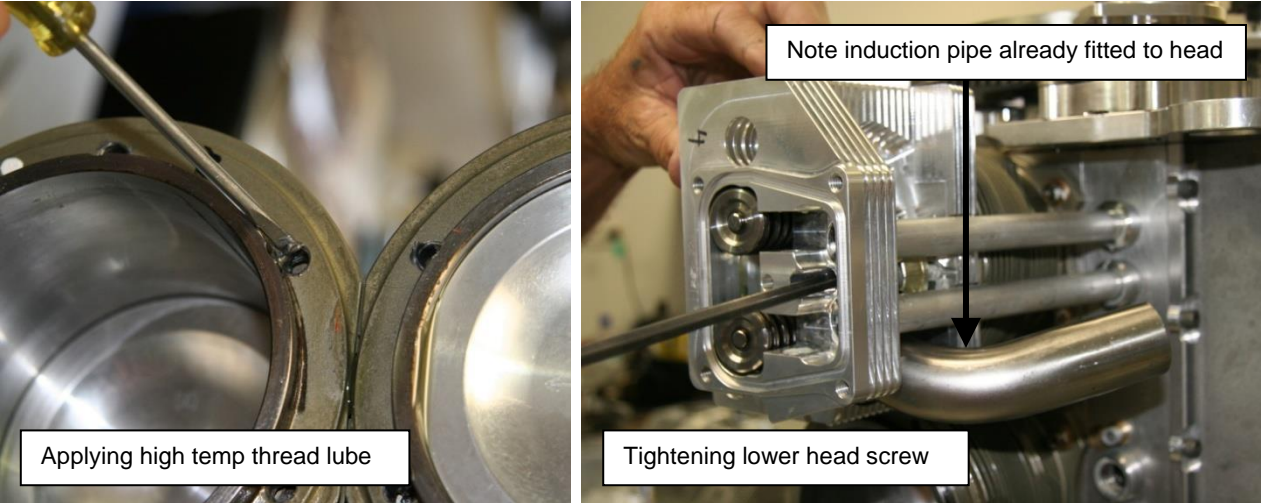

Figure 189 – Applying Thread Lubricant & Tightening Lower Head Screw
10. Apply high-temperature lubricant to the threads of the cylinder and the cylinder head screws – these are susceptible to rust which can lead to inaccurate bolt tension readings later in service. The lubricant is designed to prevent rust on the threads and to ensure a consistent torque setting during the engine's service life. Figure 189 refers.
11. Install the cylinder head bolts and washers with a light tension setting. In particular the lower head screw (which is accessed via the hole inside the rocker cavity) must be left loose – the special washer under this screw can rub against the rocker tubes and so must be carefully positioned to avoid this. Figure 189 (right) shows this screw being tightened.